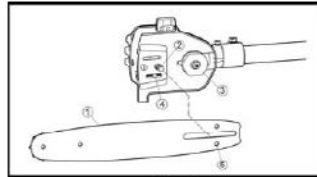

Fig. 15
3. Attach the chain bar (1) onto the bolt (2), then push it toward the sprocket (3) as far as its will go. Slightly move the chain bar back and forth and make sure the chain tension boss (4) fits into the hole (5) in the chain bar properly. Fig. 15